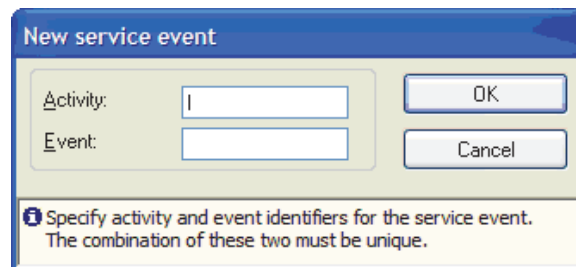

Figure 3-63. Creating a New Service Event
4. Enter a short name for the service event in the **Activity** textbox shown in Figure 3-63.